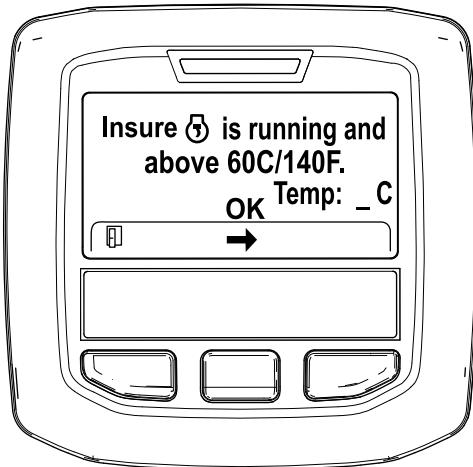

Figure 48
- If the coolant temperature is below 60°C (140°F) the "Insure" icon is running and above 60C/140F" message displays. (Figure 48).